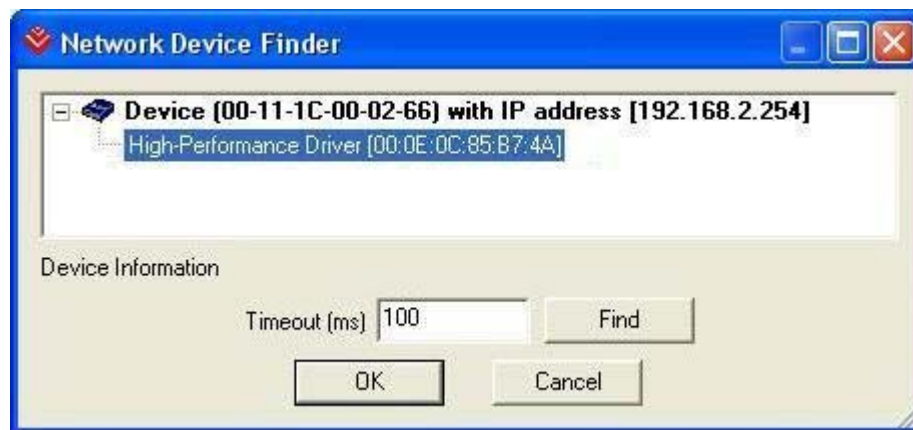

Figure 5.3 - Network Device Finder Dialog
- Detect:** Invokes the Device Finder dialog, which searches the network for available IP engines. When the user selects one of the found IP engines, the engine will fill the IP Information section of the device page – see Figure 5.3.